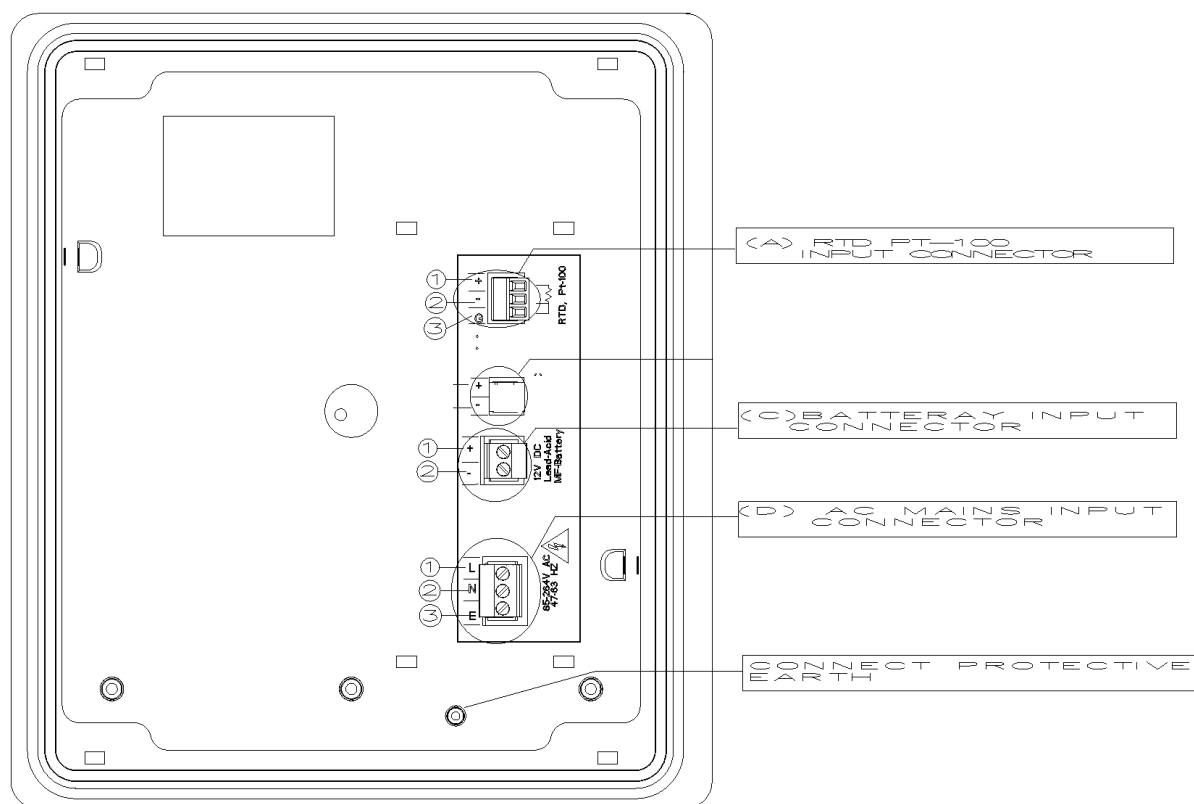

Figure 5 – Back panel view
The connection of the mains supply, battery backup and sensor are shown in figure 5. Refer the following table 3 for supply and sensor connection of the recorder.
- The connections for Mains supply, battery terminals and sensor input are shown in Figure 5. As per the figure the live, neutral & earth from the mains cord are connected to L, N & E respectively.